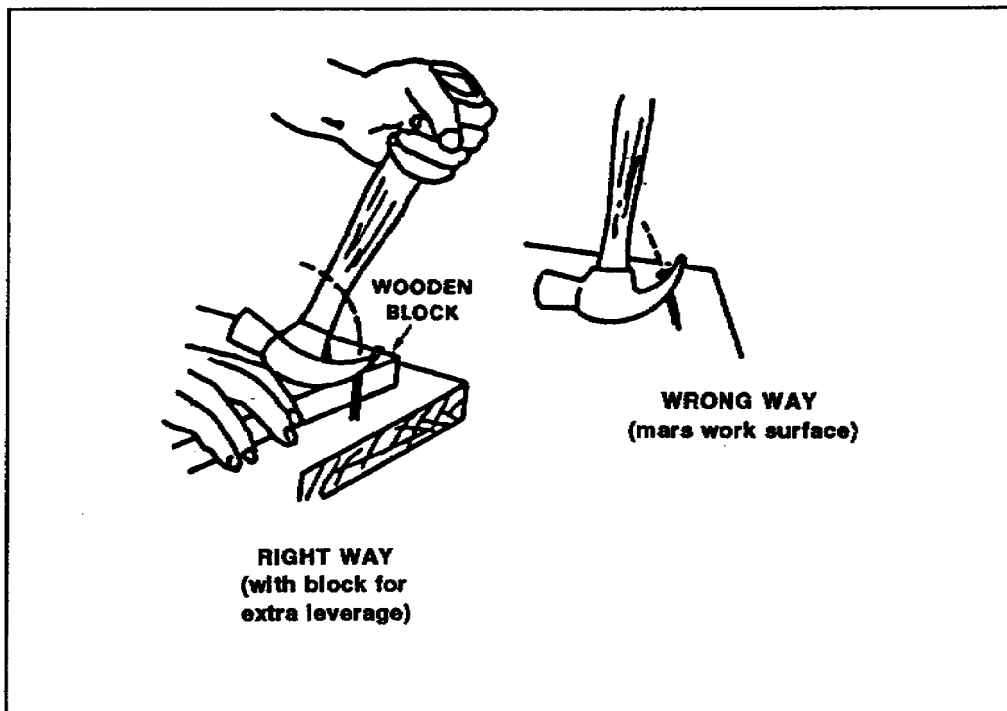

Figure 2-34. Removing nails
(2) Removing Nails. Use the claw of the hammer to remove nails. To properly pull a nail, place a block under the claw for leverage. If the nail is large, use a nail puller or a wrecking bar (Figure 2-34).